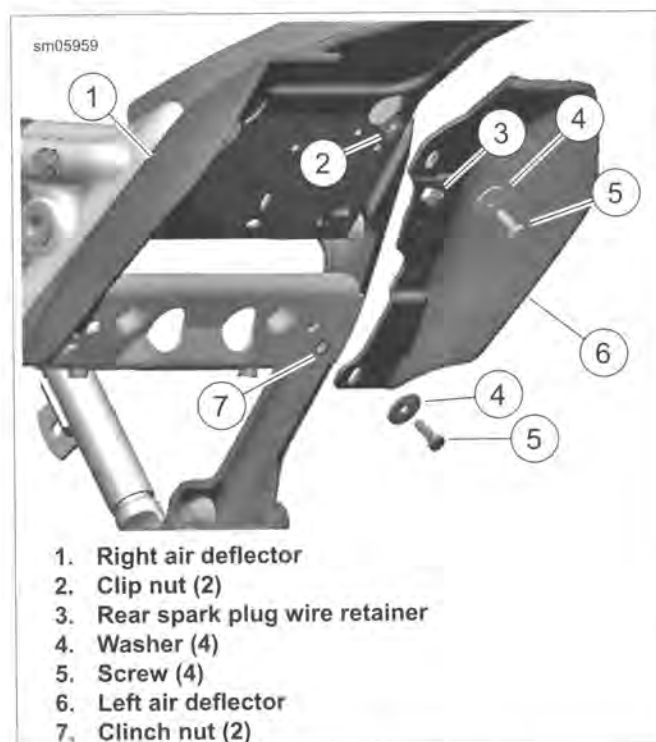

Figure 2-150. Air Deflectors
1. See Figure 2-150. Release spark plug wire from retainer (3) (left deflector only).
2. Remove screws (5) and washers (4).
3. Remove deflector (6) from frame.
1. See Figure 2-150. Verify clip nut (2) is installed in frame hole.
2. Install left air deflector (6) with washers (4) and screws (5). Tighten to 25-35 **in-lbs** (2.8-4.0 Nm).
3. Secure spark plug wire in retainer (3).